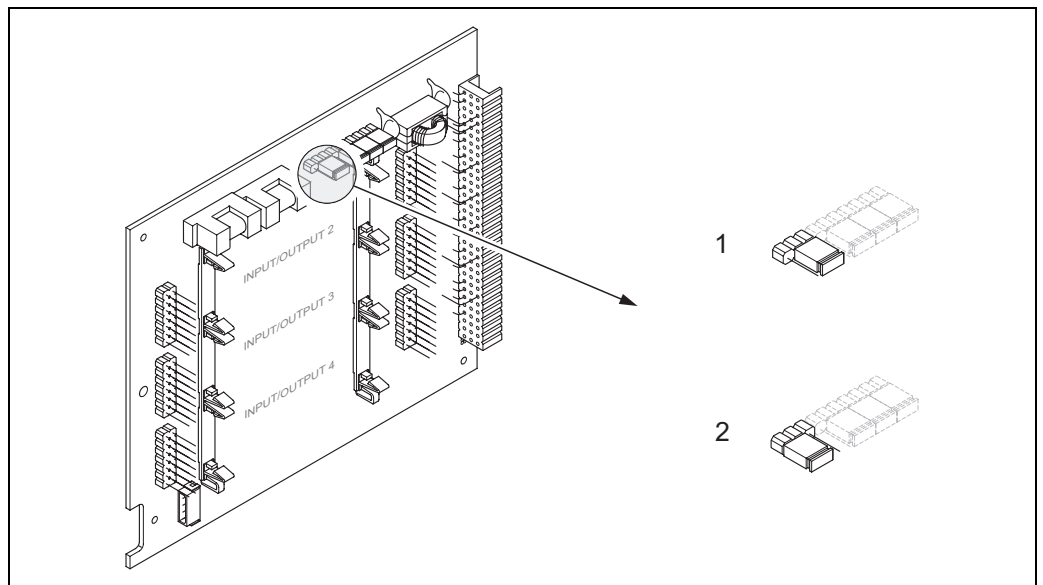

Fig. 28: Switching HART write protection on and off
3. Switch HART write protection on or off, as applicable, by means of the jumper (→ Fig. 28).